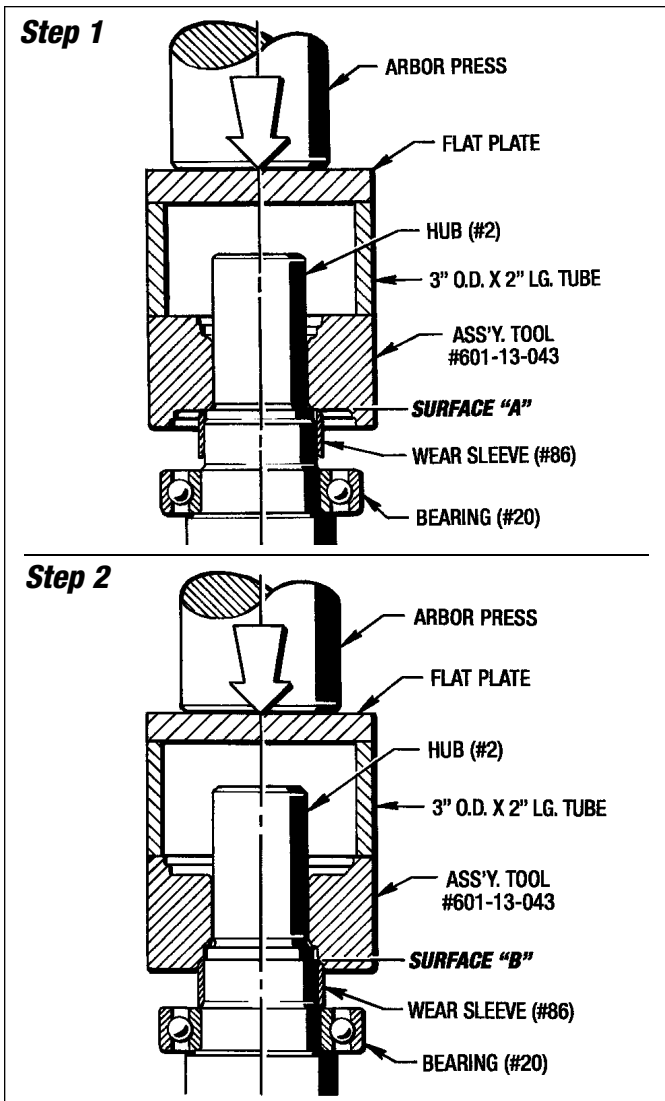

Figure 9.4 - Installing Wear Sleeve (#86)
1. Apply **Red Loctite #262** to the Hub (#2) diameter. Press the Wear Sleeve (#86) with **Surface "A"** of the **Assembly Tool** on to the Hub (#2) as far as it will go as shown in **Step 1** of Figure 9.4.
2. Turn the **Assembly Tool** over and with **Surface "B"** finish seating the Wear Sleeve (#86) until it bottoms out on the hub shoulder. (See **Step 2** of Figure 9.4.)